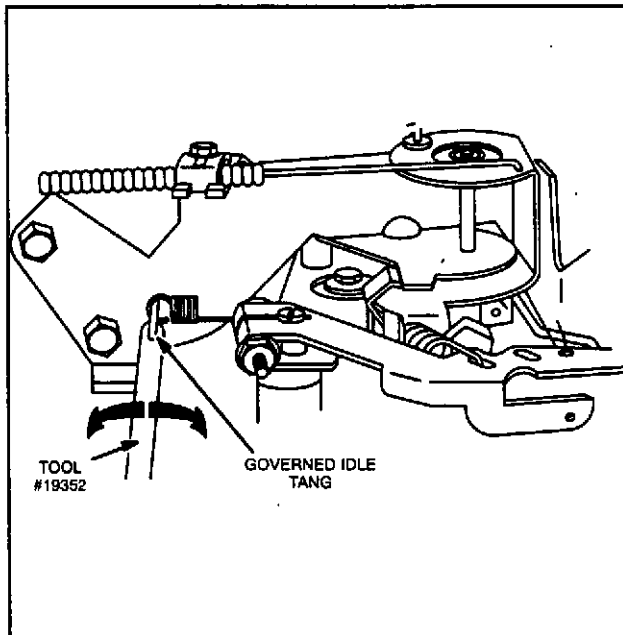

Fig. 13 - Adjusting Governed Idle
3. Move control lever to "SLOW" position. With an accurate tachometer and tang bender, Tool #19352, bend governed idle tang, (Fig. 13), to obtain RPM shown below: